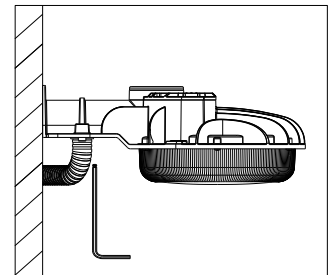

Figure 9
6. Fix the cover plate, fasten the screws (Figure 9)